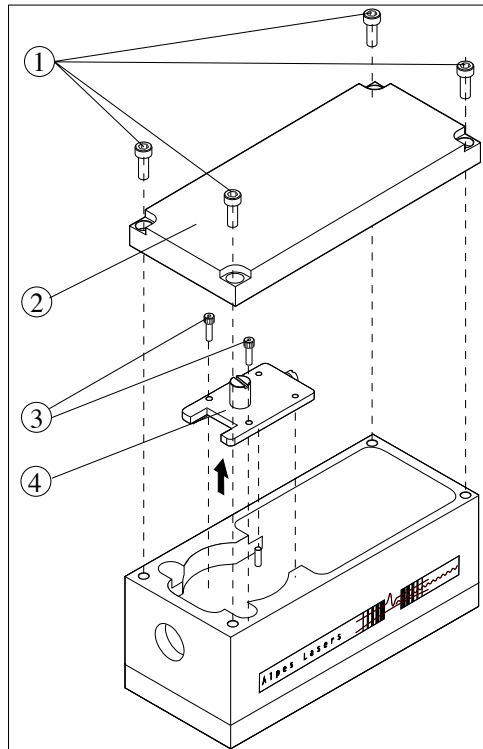

Figure 5.25.: Exchanging the laser in the LLH housing.
1. disconnect the LLH and open its cover (2), as shown in figure 5.25
1. remove the screw (5) located at the back of the contact set, as shown in figure 5.25
2. remove the copper contact (6)
4. tighten back the screw (5)